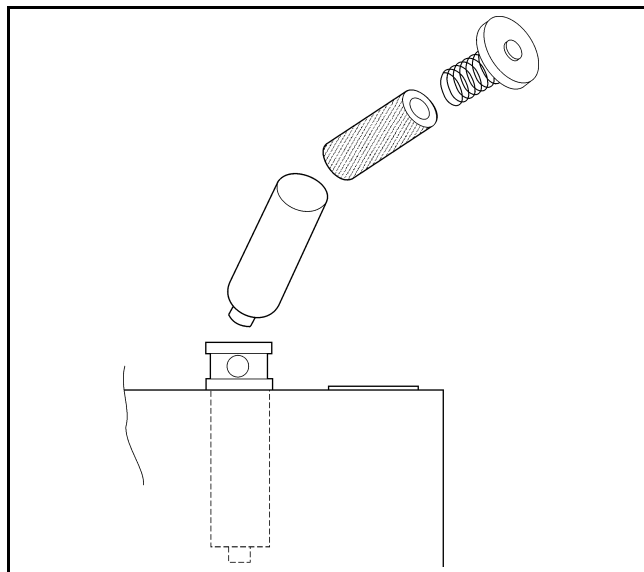

Figure 4-16 Hydraulic Reservoir
4. Remove the hydraulic reservoir cover as shown in Figure 4-16.
6. Remove bolts and filter cover. Remove and discard old filter. Put clean hydraulic fluid on the filter gasket and install gasket and new filter into reservoir (Figure 4-16).